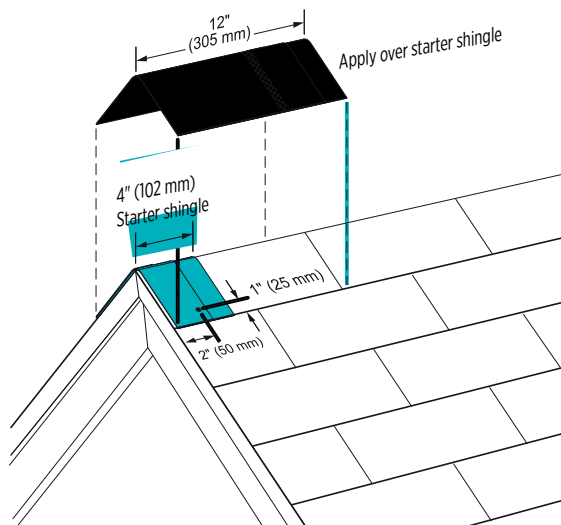
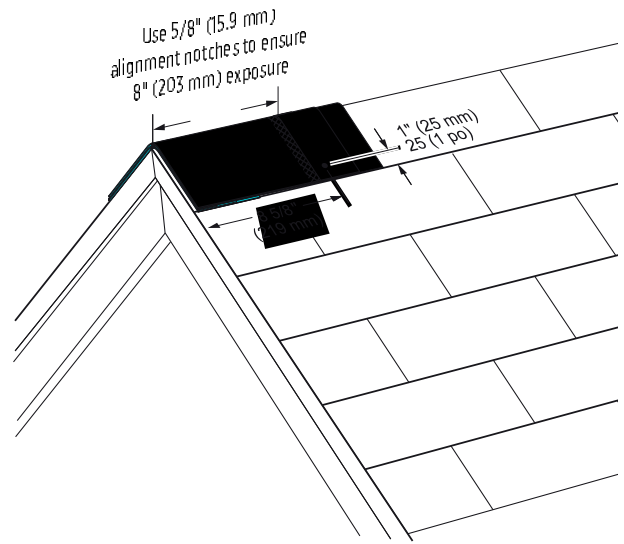

Figure 16-20: Apply a full cap shingle over the starter shingle.
Figure 16-21: Install cap shingles at an 8" exposure and fasten with one nail on each side as shown.
For the starter shingle, place fastener 1" in from each side edge and about 2" up from the starter shingle's exposed butt edge, making sure fastener goes 3/4" into the deck or all the way through the deck. (see Figure 16-20). For each full Cedar Crest shingle, place fasteners 8-5/8" up from its exposed butt edge and 1" in from each side edge (see Figure 16-21).
Apply primary roofing up to hip or ridge on both sides of roof and trim flush. Ensure that the Cedar Crest shingles will adequately cover the top course of the shingles on both sides of the hip or ridge. Prepare a 4" (102 mm) "starter" shingle by cutting off the lower 8" (203 mm) color granule portion of one Cedar Crest shingle. Apply the 4" (102 mm) starter piece over the bottom corner of the hip or to either end of the ridge, overhanging the corner or end by approximately 1/2" (13 mm) and bending the starter shingle along its centerline to form into place (see Figure 16-20). Install a nail on each side about 2" (51 mm) up from the starter shingle's exposed butt edge and 1" (25 mm) in from each side edge of the shingle. Then apply a full 12" x 12" (305 mm x 305 mm) piece over the starter, bending the shingle along its centerline and forming it into place over the hip or ridge, flush with the bottom and side edges of the starter shingle. Utilizing the 5/8" (15.9 mm) notches located on either side of the shingle as a guide, position to help ensure the 8" (203 mm) exposure. Fasten with two (2) fasteners minimum 1-3/4" (45 mm) long with one (1) nail on each side of shingle 8 5/8" (219 mm) up from the butt edge and 1" (25 mm) in from each side edge (see Figure 16-21).